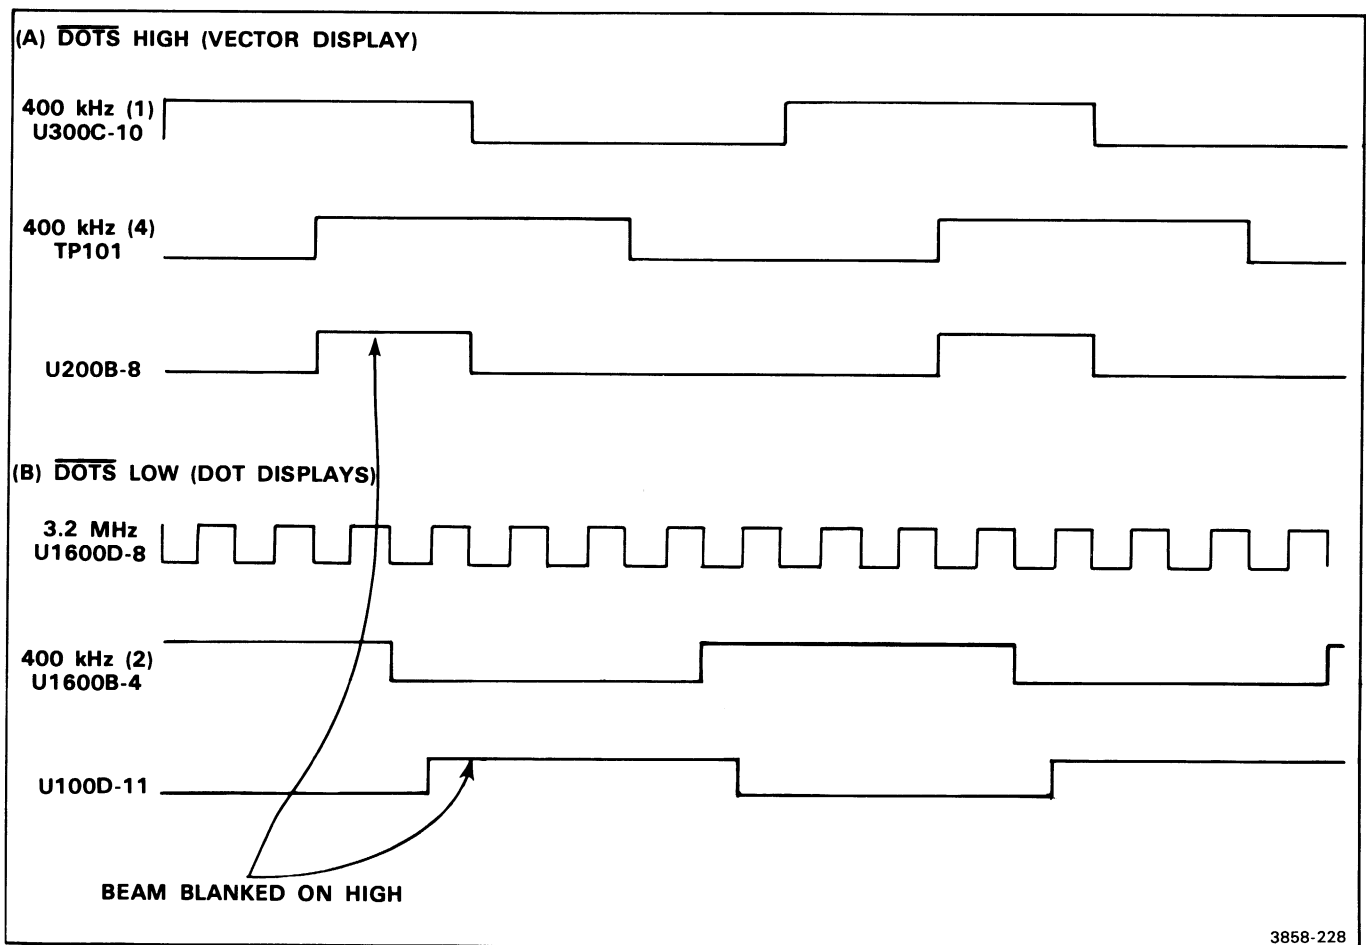

Figure 2-13. Crt Beam Blanking Timing: (A) Vector Mode; (B) Dots Mode.
During a display cycle, flip-flops U200B and U1500A control the blanking of the display. When the $\overline{\text{DOTS}}$ line is low (dots mode), the high at pin 12 of U1600F holds the $\overline{\text{Q}}$ output of U200B high. U1500A then controls the blanking of the crt beam (see Fig. 2-13). The output of U1500A at pin 6 is essentially the 400kHz(2) signal,